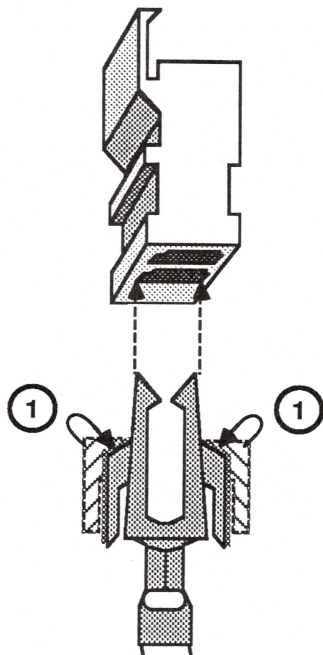
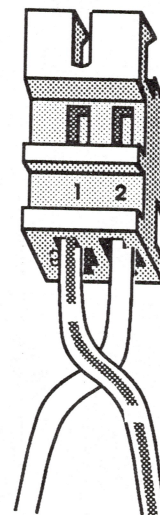

FIGURE 7
FIGURE 8
5. Pull the lead tabs out of the connector (Figure 7).
6. Straighten out the little metal teeth on the edges of the tabs where they were bent by the screwdriver tip (Figure 7, #1). These teeth must be separated enough from the tabs to snap back onto the connector holes on reinsertion.
7. Reverse the position of the leads and replace them in the connectors according to the orientation shown by the dotted lines in Figure 7. Push the leads in until the teeth snap into the connector holes (Figure 8). Tug on the leads to make sure they are seated securely.